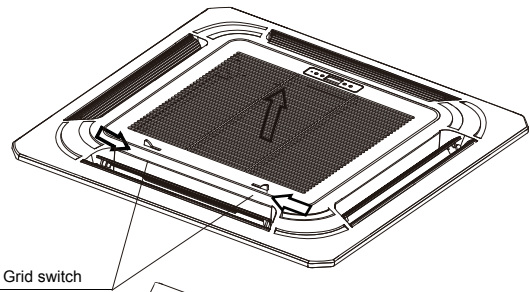

Fig. 5-5
- Adjust the position to ensure the gaps between the body and the four sides of ceiling are even. The body's lower part should sink into the ceiling 10-12 mm. (Refer to Fig.5-5)